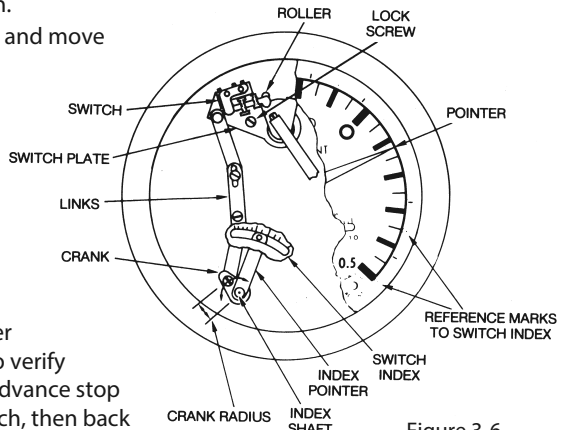

Figure 3-6.
#### B. Calibration Procedure (see Figure 3-6)
B. Calibration Procedure (Cont.) (see Fig. 3-6) (See Warning , page 13)